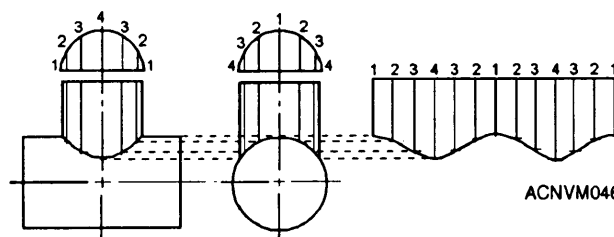

Figure 12-46.—Stretchout of the T.
8. Now look at figure 12-46. To the right of the elevations, draw a stretchout equal in length to the
circumference of the upper section of the T, or equal to twice the distance that you stepped off in the half-plan. The height of the stretchout, obtained by projection, is equal to the maximum height of the T. The height is equal to the length of the longest element in the side elevation—in figure 12-46, element number 4.